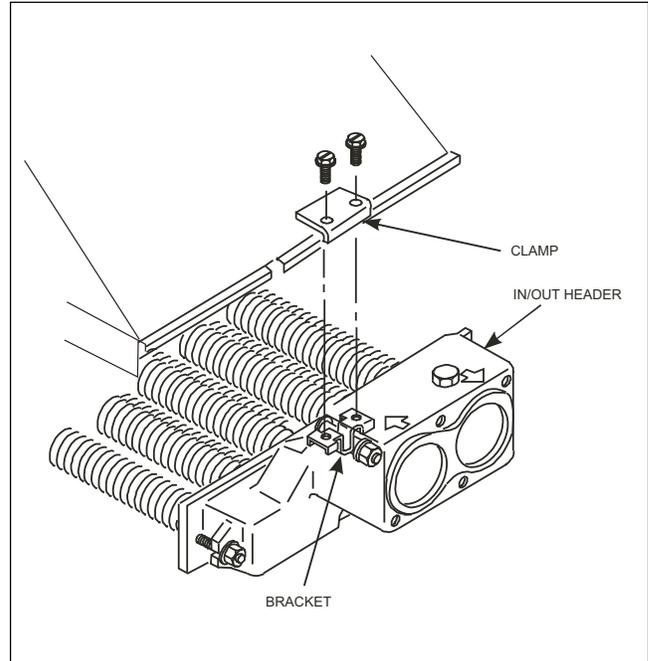

Figure 3. Flue collector holddown brackets.
8. Remove the screws securing the two flue collector holddown clamps and remove the clamps (see Figure 3). Remove flue collector.